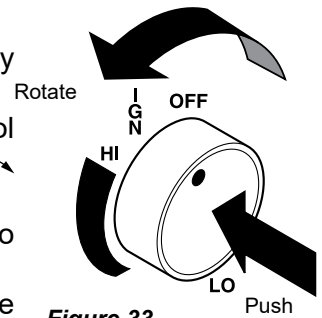

Figure 33 - IGN Position
6. From OFF position, push in gas control knob slightly and turn counterclockwise to the IGN position. Figure 33. Push in and hold control knob for 5 seconds.